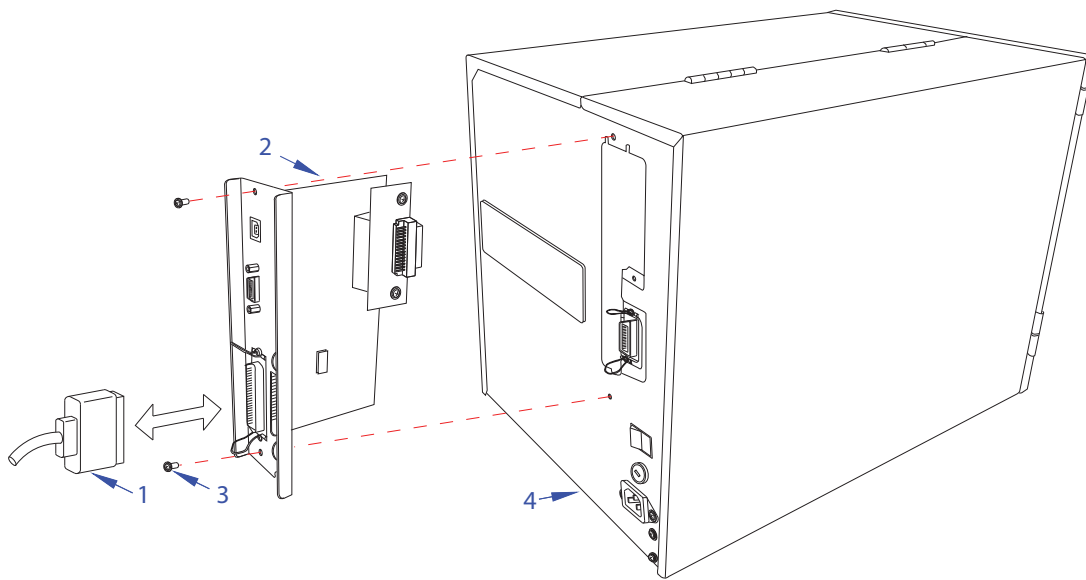

Figure 7-11, Interface Board Replacement
- 2 Disconnect interface cable (1, Figure 7-11) from defective interface board (2).
- 3 Remove two screws (3) securing defective interface board (2) to printer (4).
- 4 Insert replacement interface board (2) into printer (4) and secure using two screws (3).
- 5 Connect interface cable (1).